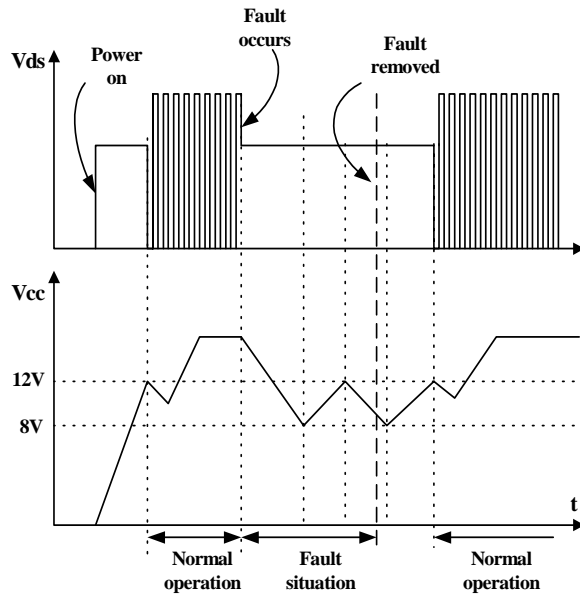

Figure 6. Auto restart operation
**3. Protection Circuit** : The FSDM07652RB has several self protective functions such as over load protection (OLP), over voltage protection (OVP) and thermal shutdown (TSD). Because these protection circuits are fully integrated into the IC without external components, the reliability can be improved without increasing cost. Once the fault condition occurs, switching is terminated and the Sense FET remains off. This causes Vcc to fall. When Vcc reaches the UVLO stop voltage, 8V, the protection is reset and the internal high voltage current source charges the Vcc capacitor via the Vstr pin. When Vcc reaches the UVLO start voltage, 12V, the FSDM07652RB resumes its normal operation. In this manner, the auto-restart can alternately enable and disable the switching of the power Sense FET until the fault condition is eliminated (see Figure 6).